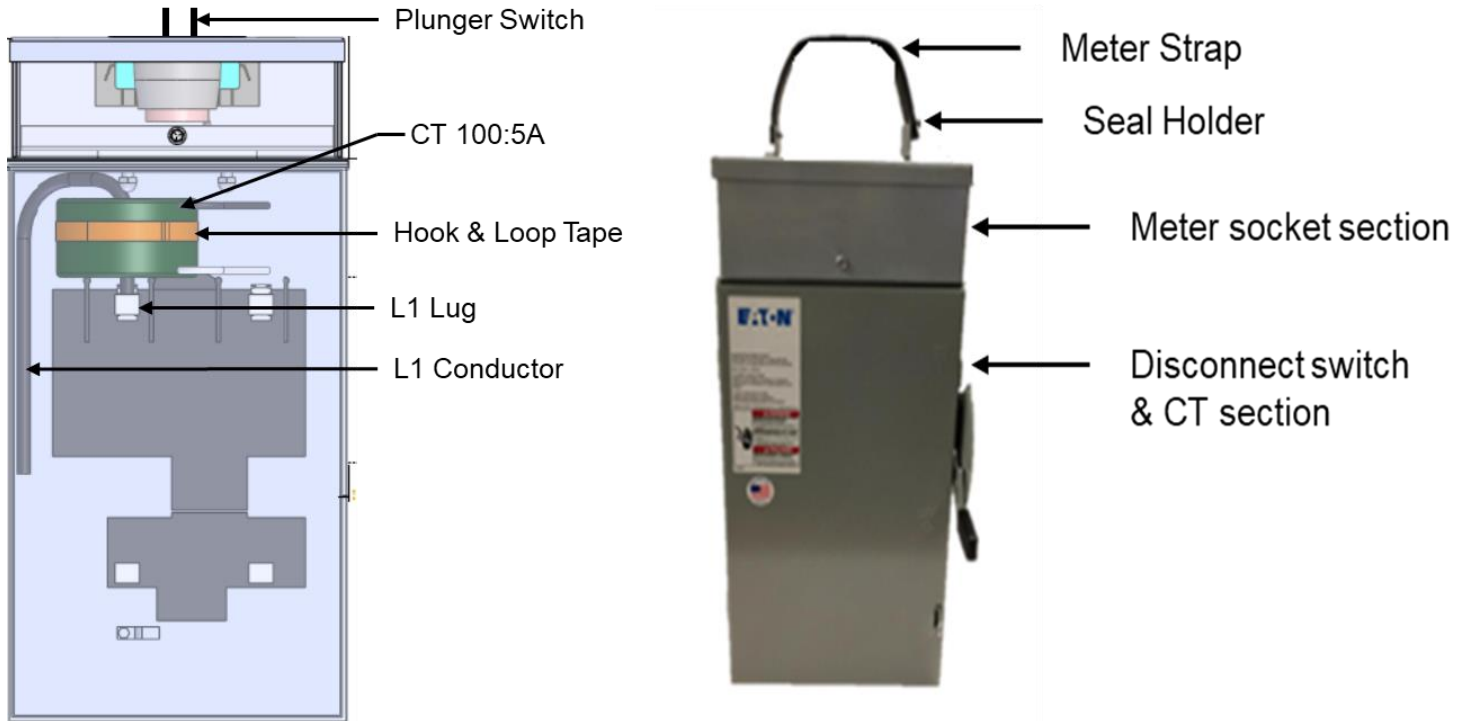

Figure 7 - Transformer Rated SmartPole Meter, Current Transformer and Enclosure
6. Added new Figure 7 on Page 10.